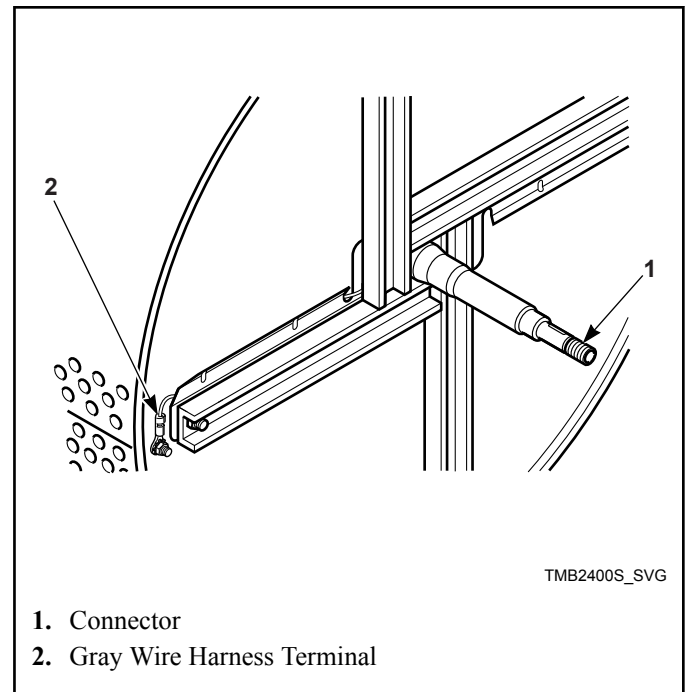

Figure 8
3. Connect one ohm meter probe to the connector in the basket shaft (Refer to *Figure 8*).